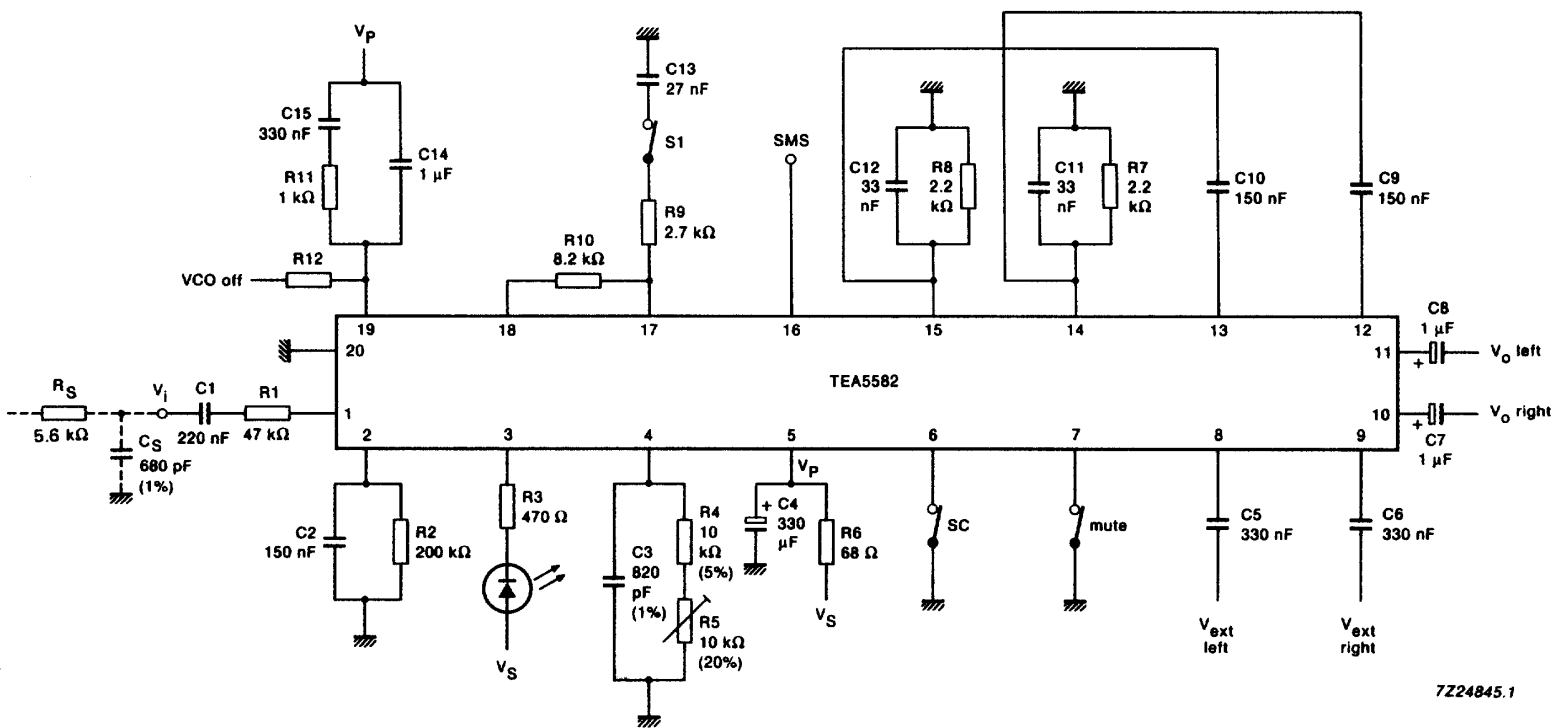

Fig.5 Test and application circuit.
Measured in the test circuit of Fig.5; $V_S = 8.5\text{ V}$; $T_{\text{amb}} = 25\text{ }^\circ\text{C}$.
AC conditions: (1) input signal (V_i) of 815 mV p-p for L = 1, R = 1 (mono) $f_m = 1\text{ kHz}$ (= 80% modulation). (2) MUX input signal (V_i) of 1.2 V p-p for L = 1, R = 0 and no DBX; $f_m = 1\text{ kHz}$ (stereo) and $V_{\text{pilot}} = 200\text{ mV p-p}$. (3) S1 open, unless specified (without L-R filter); voltage controlled oscillator (VCO) adjusted to 188.8 kHz at $V_i = 0\text{ V}$; values are measured with an external IF roll-off network (-2 dB at 31.5 kHz = $2f_H$) at the input (dashed components RS and CS in Fig.5).